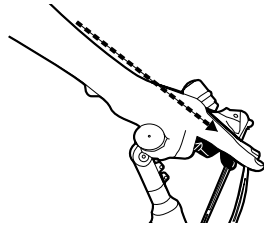

Figure 10. Brake lever aligned with the forearm
1. To ensure a good lever position, loosen the screw(s) holding the lever onto the brake attachment, then adjust the angle so that it is in line with your forearms when you are in riding position (*Figure 10*).